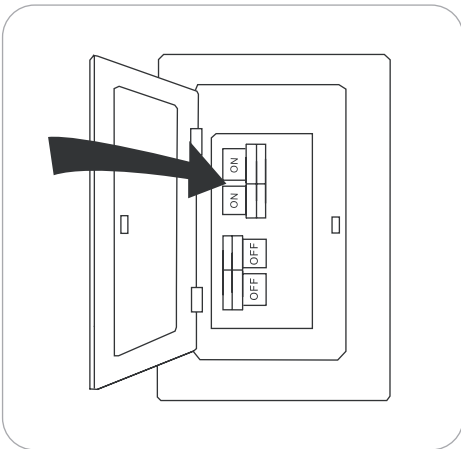

Figure 5.13
13. Turn on power to fan at breaker box and the wall switch (Figure 5.13).